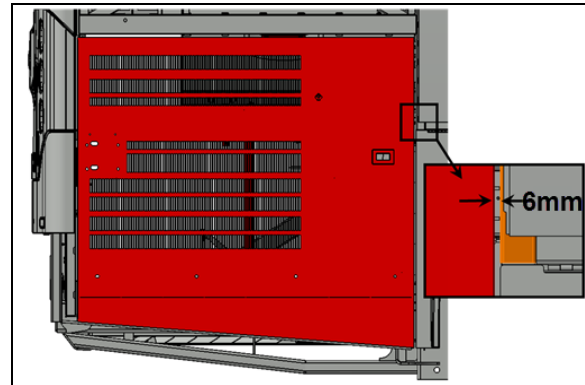

FIGURE 48
- Check the gap between the door and the adjacent panel at the level of the upper attachment point of the arm on the door. The gap should be $\frac{1}{4}$ " (6 mm) (FIGURE 48).